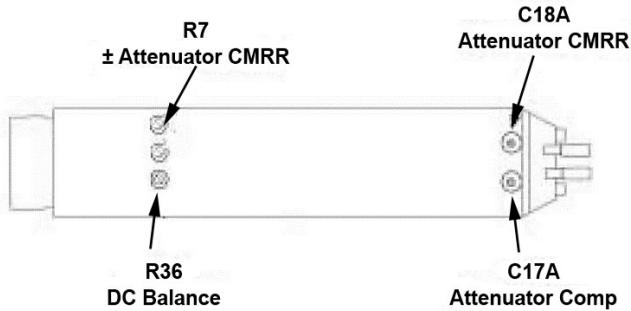

Figure 10, Probe Tip Adjustment Locations
- Adjust \div **CMRR** (R7) for minimum amplitude. (See Figure 10 for location.)
- Adjust **Attenuator Comp** (C17A) for a flattop waveform. See Figure 10 for adjustment location.